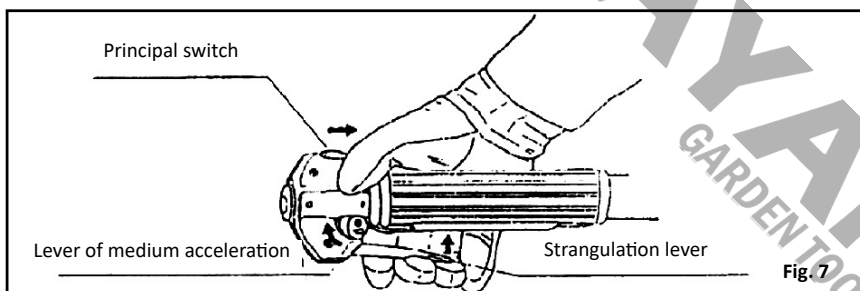

Fig. 7
- (1) Move the ON/OFF switch away from the STOP position. The motor will not start if the ON/OFF switch is in the STOP position (Fig. 7).
- (2) Press the trigger lever and move the lever of medium acceleration in the direction of the arrow (Fig. 7).
- (3) Loosen the trigger lever; this will lock the lever of medium acceleration in position. Now you can start the motor (Fig. 7).